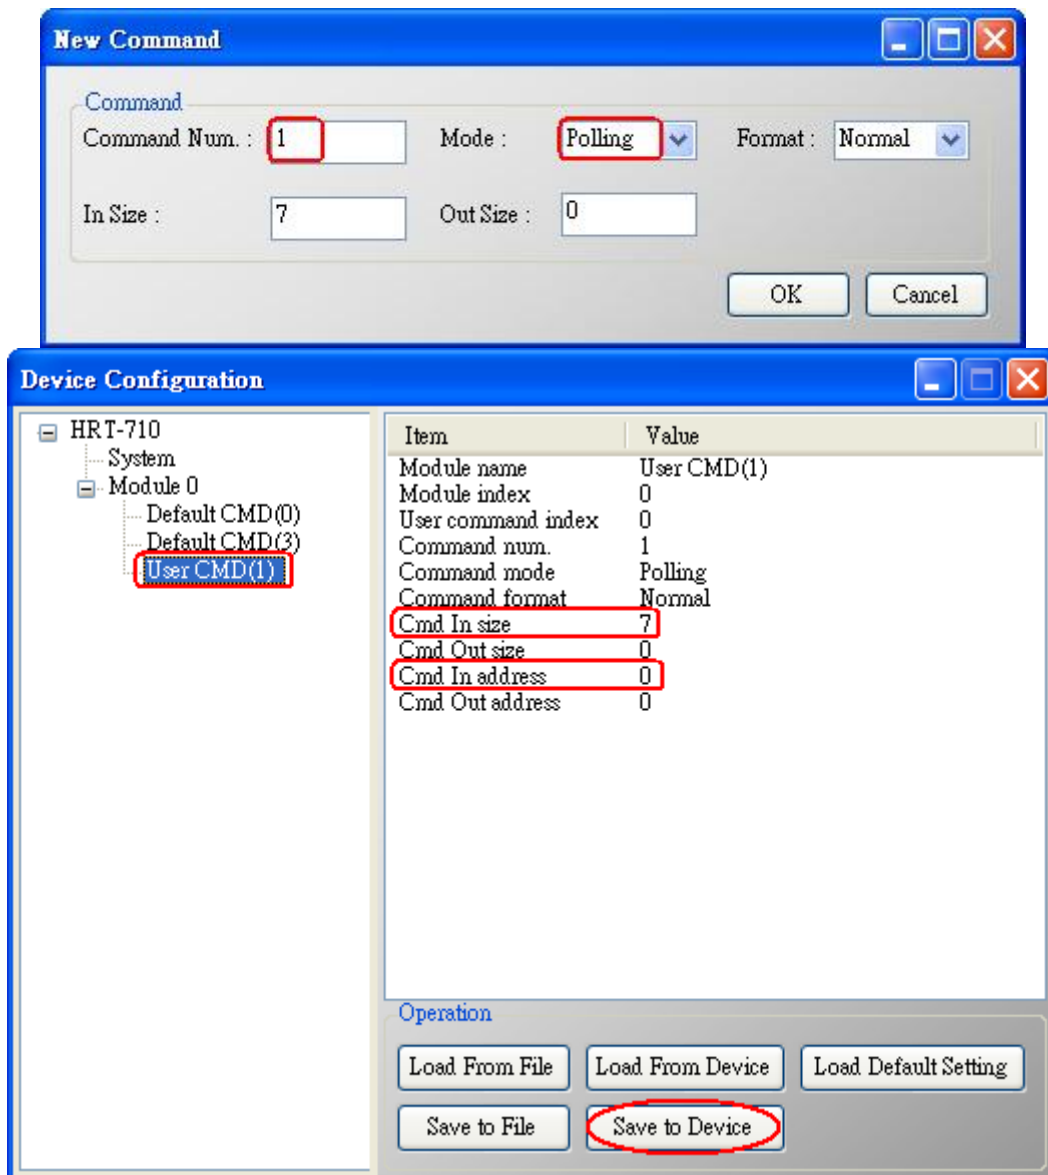

Figure 5-1 Add "User CMD(1)" of HART device to HRT-710
(1) By using “HG\_Tool” to add “User CMD(1)” of HART device and save settings to HRT-710. The Modbus start address and length of the “User CMD(1)” will show in the “**Cmd In address**” and “**Cmd In size**” field like Figure 5-1. In the example they are 0 and 7 (byte count=7 => word count=4).